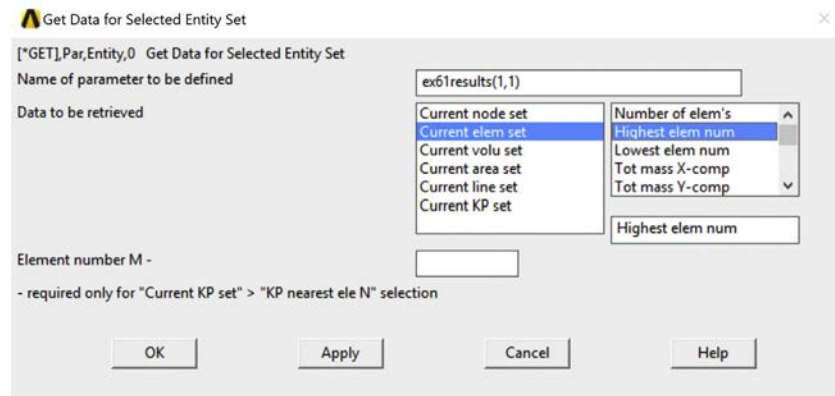

Figure 6-1-6 Get Scalar Data for Selected Entity Set Dialog Box.
- For Name of parameter to be defined enter “`ex61results(1,1)`” (Figure 6-1-6)